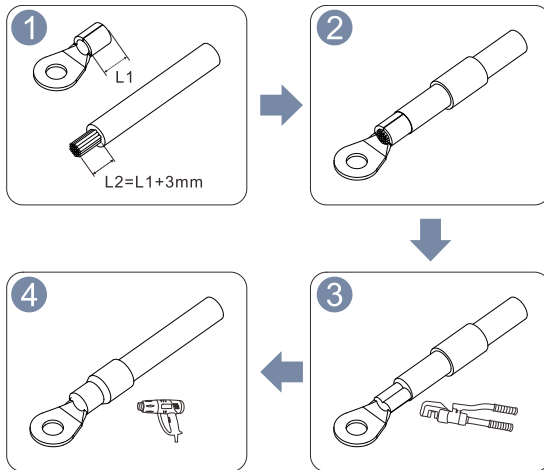

Figure. 4-8 Diagram of Crimping OT terminals
**Step 2:** As shown in Figure 4-8, install a protection ground cable at the ground terminal on the right of the BDU and connect it to the external ground protection point.